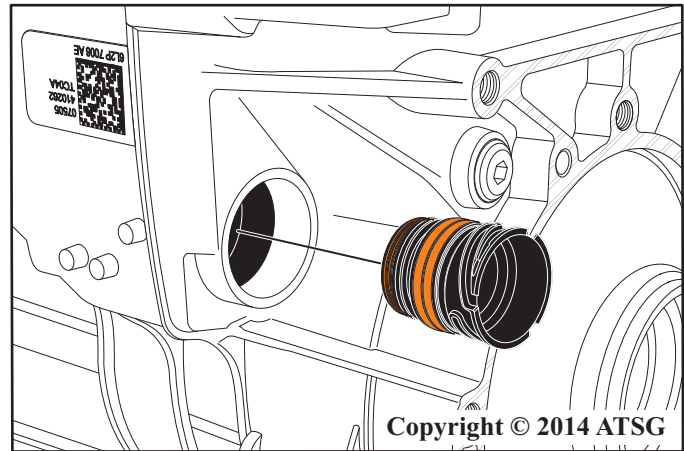

Figure 156
69. Install the bulkhead electrical connector sleeve into the transmission as shown in Figure 156.